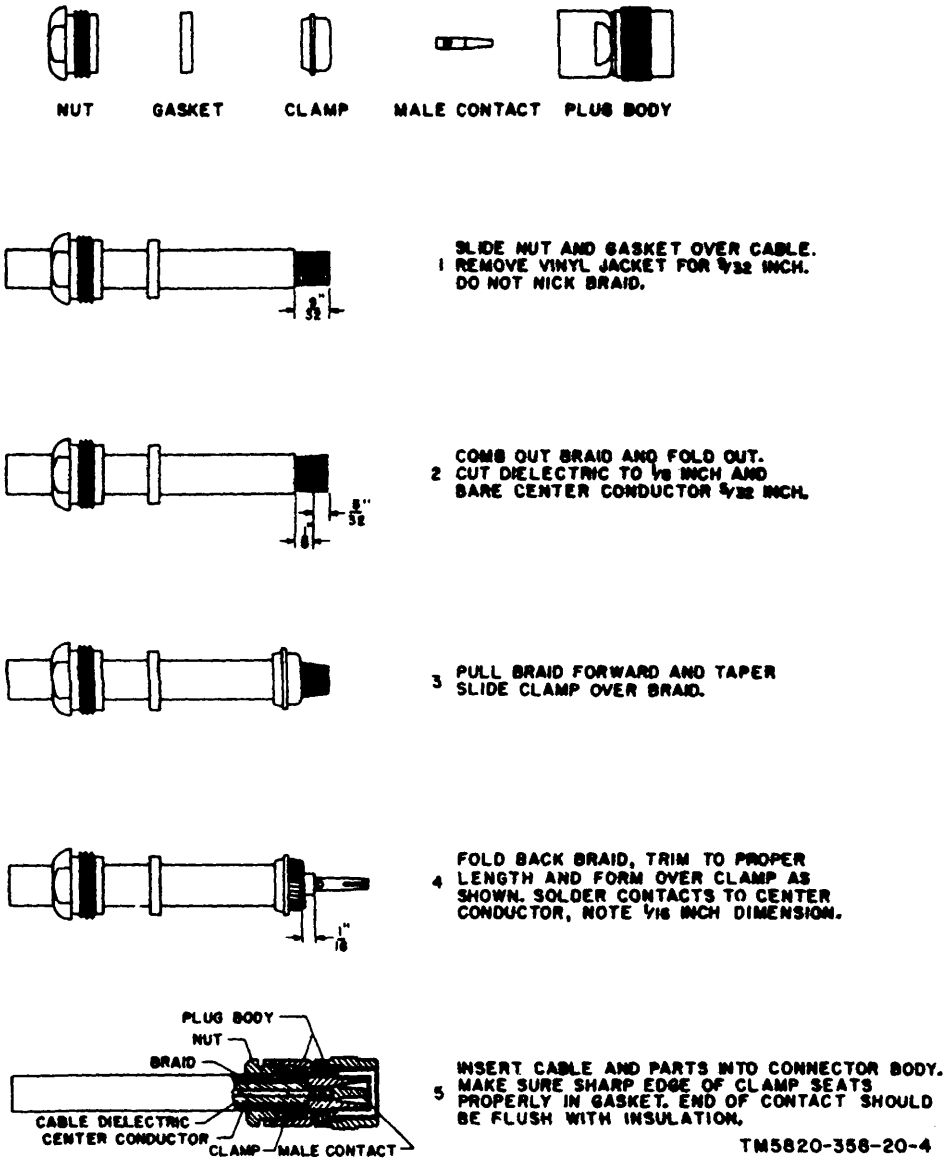

Figure 4. Assembly of Connector Plug Ug-573/U on coaxial cable.
- (1) For information concerning rhombic and doublet antennas, refer to TM 11-666.
- (2) For double-doublet information, refer to TM 11-2629.
b. *Assembling Connector Plug UG-573/U.* Figure 4 gives complete instructions for assembling Connector Plug UG-573/U or Connector Plug P-259.